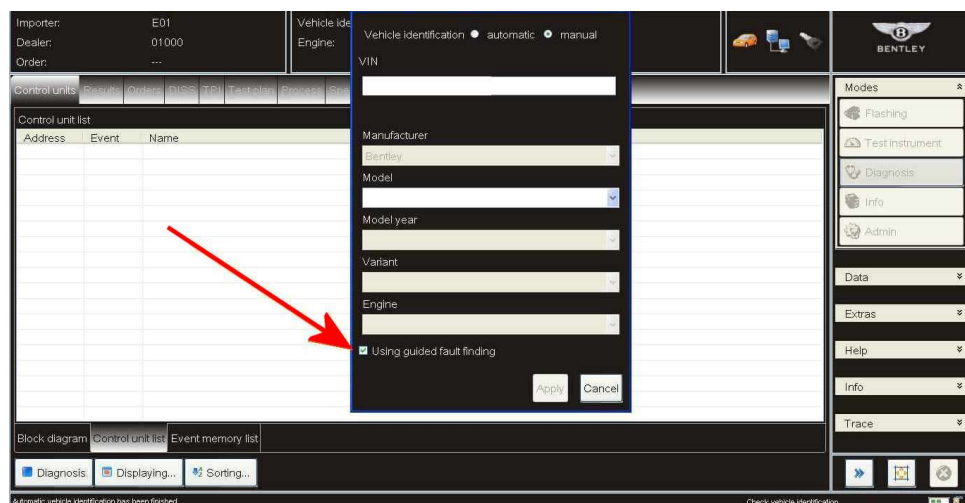

Figure 1
- Ensure the Using guided fault finding box is ticked (Figure 1) - follow all on screen prompts to allow the guided fault finding control module sweep to complete